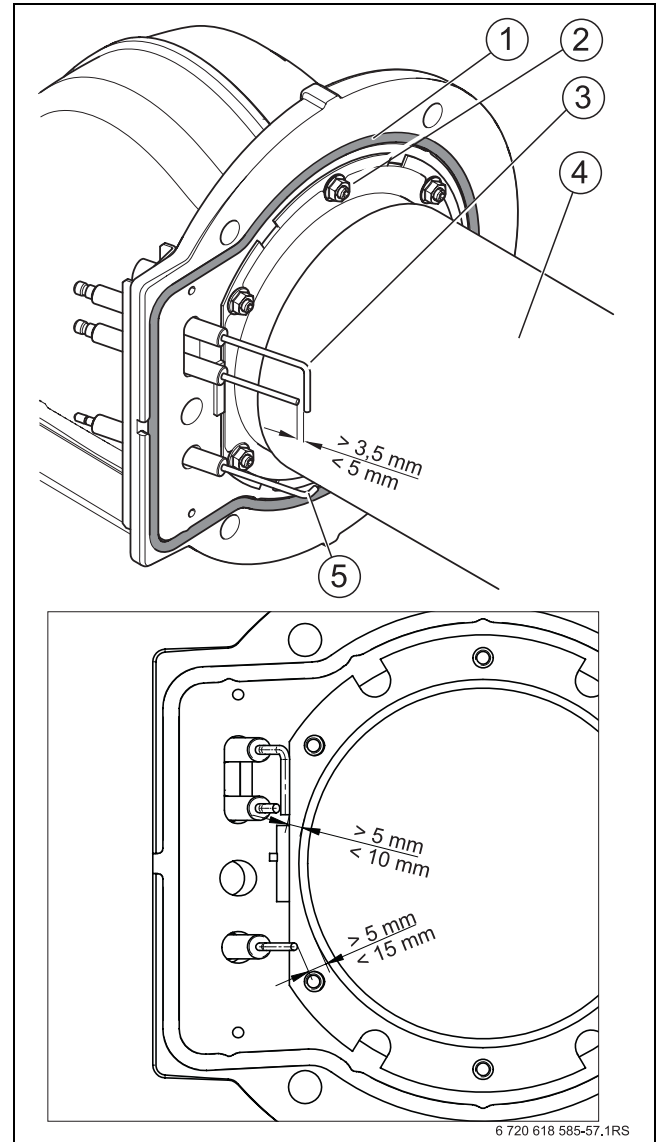

Fig. 54 Setting the electrode position
- ▶ Check the gaps between the electrodes and compare them with those shown in Fig. 54.